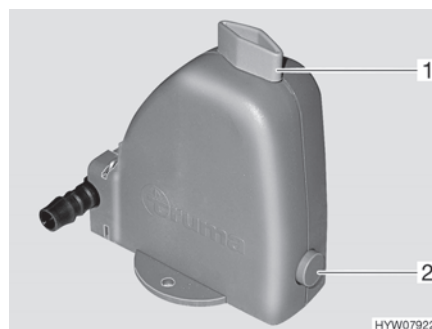

Fig. 112 Safety/drainage valve
The heater is equipped with a safety/drainage valve (Fig. 112). The safety/drainage valve prevents water for the production of hot water from freezing, when there is frost and the heater is not switched on.
- Close the safety/drainage valve. Turn the knob (Fig. 112,1) perpendicular to the safety/drainage valve and push the push button (Fig. 112,2) in.
- Open the safety/drainage valve. To do this turn the knob (Fig. 112,1) parallel to the safety/drainage valve. The push button (Fig. 112,2) jumps out. The domestic water container is emptied to the outside through the safety/drainage valve.